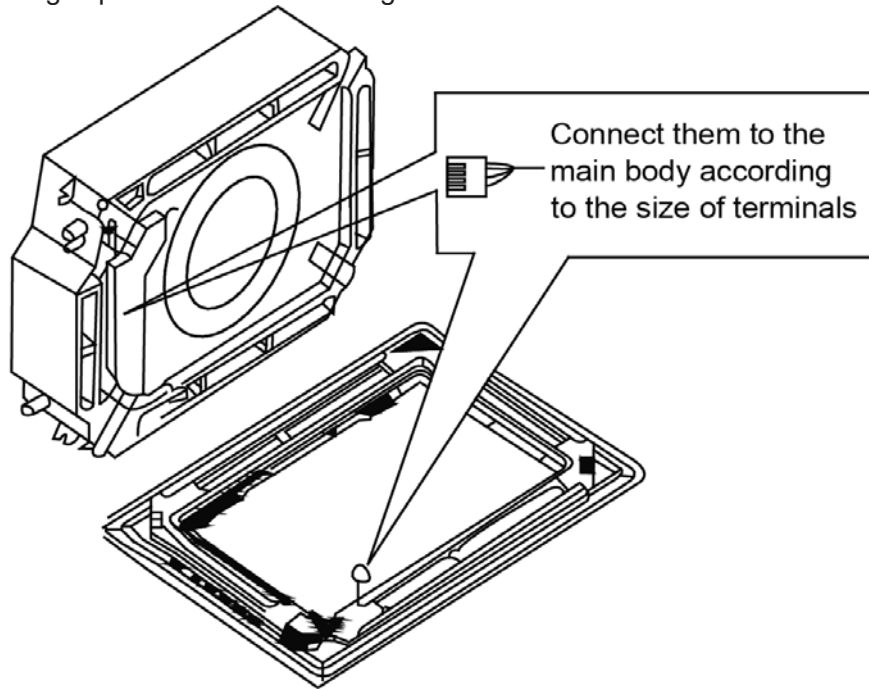

Figure 3-1-34
(9) Wire the swing flap motor as shown in Figure 3-1-34.